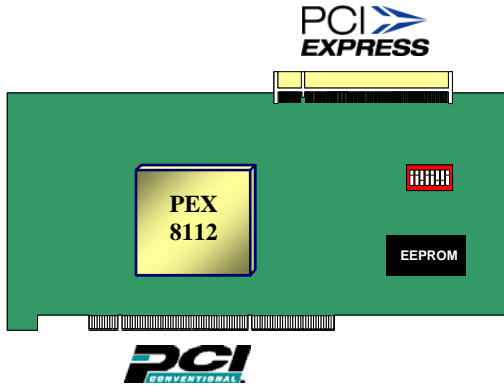
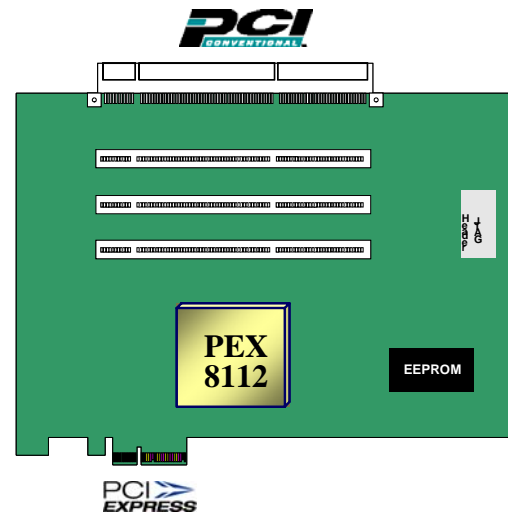

Figure 4. Reverse Bridge RDK
Figure 5. Forward Bridge RDK
**PEX 8112 Reference Design Kits (RDK)** enable rapid customer design. The Reverse Bridge RDK (Figure 4) includes a standard PCI connector (card-edge) and a standard PCI Express slot on the secondary side. The Forward Bridge RDK (Figure 5) includes the PEX 8112 with a single x1 PCI Express port (card-edge) and four PCI slots on the secondary side. Each PEX 8112RDK can be installed in a motherboard to evaluate PEX 8112 features and validate customer software.